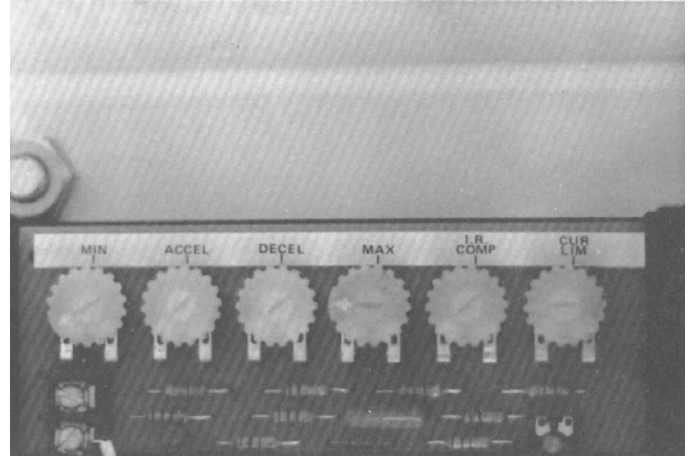

FIGURE 8. CLOSE-UP OF DART CONTROL SHOWING POTENTIOMETERS
With the power off to the control and the trimpot settings (refer to Figure 8) corresponding to the voltage and horsepower of the pump motor, loosen the Lovejoy coupling between the pump and motor, and separate so the motor will run independently of the pump. Place a temporary jumper wire from terminal 104 to terminal 105 on the terminal strip in the V-PLUS panel. Turn the power to the panel back on and change the setpoints variable (SV) to 150°F. Insure the rotation is in the correct direction by referring to Figure 8. Make sure the motor is running slow and steady. You should be able to count the fan blades on the motor at this speed. If the motor is running too fast, adjust the MIN speed trimpot on the Dart control until you can count the fan blades.